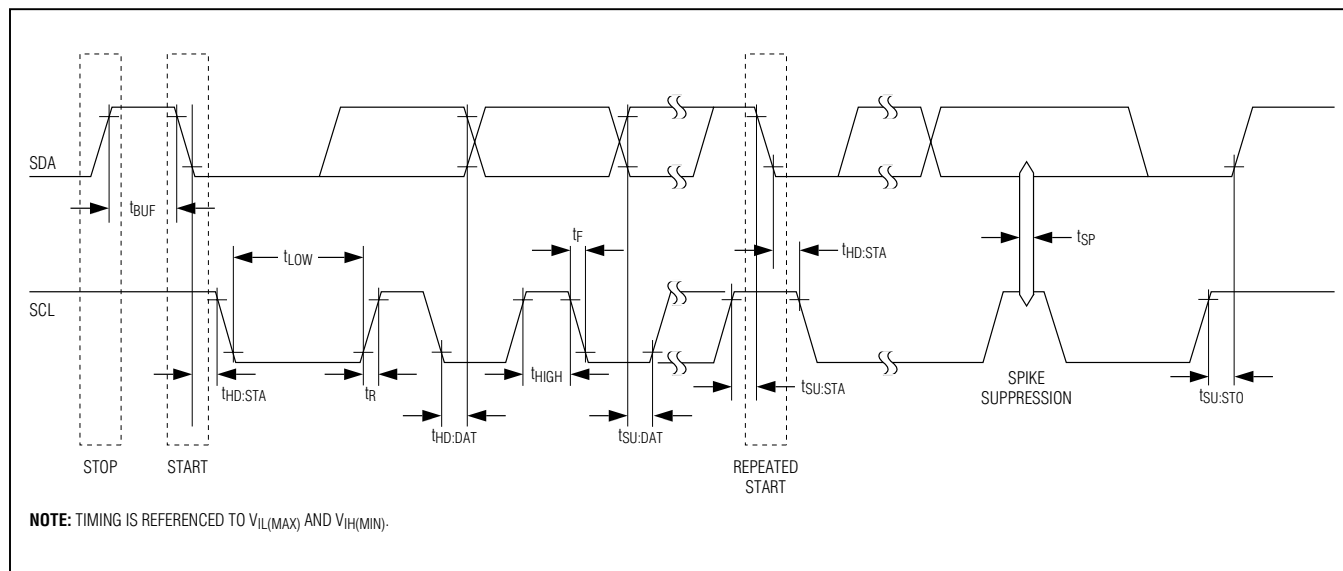

Figure 10. I2C Timing Diagram
The following terminology is commonly used to describe I2C data transfers. The timing references are defined in Figure 10.
**Data Valid:** With the exception of the START and STOP condition, transitions of SDA can occur only during the low state of SCL. The data on SDA must remain valid and unchanged during the entire high pulse of SCL plus the required setup and hold time ( $t_{HD:DAT}$  after the falling edge of SCL and  $t_{SU:DAT}$  before the rising edge of SCL; see Figure 10). There is one clock pulse per bit of data. Data is shifted into the receiving device during the rising edge of the SCL pulse.
When finished with writing, the master must release the SDA line for a sufficient amount of setup time (minimum  $t_{SU:DAT} + t_R$  in Figure 10) before the next rising edge of SCL to start reading. The slave shifts out each data bit on SDA at the falling edge of the previous SCL pulse and the data bit is valid at the rising edge of the current SCL pulse. The master generates all SCL clock pulses, including those needed to read from a slave.